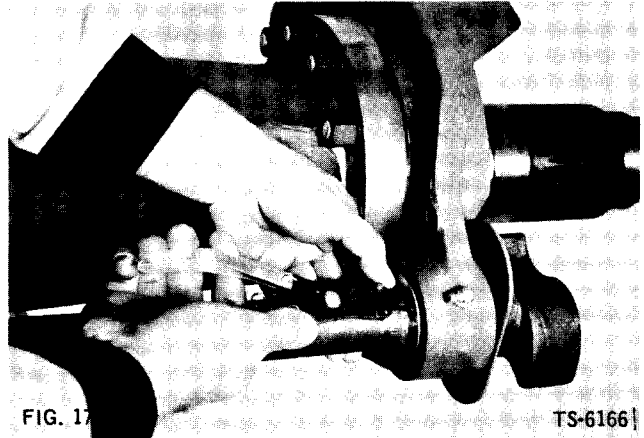

FIG. 172
17. Seat felt grease retainer in recess in brake spider. Install retaining ring in retaining ring groove. (Fig. 172).